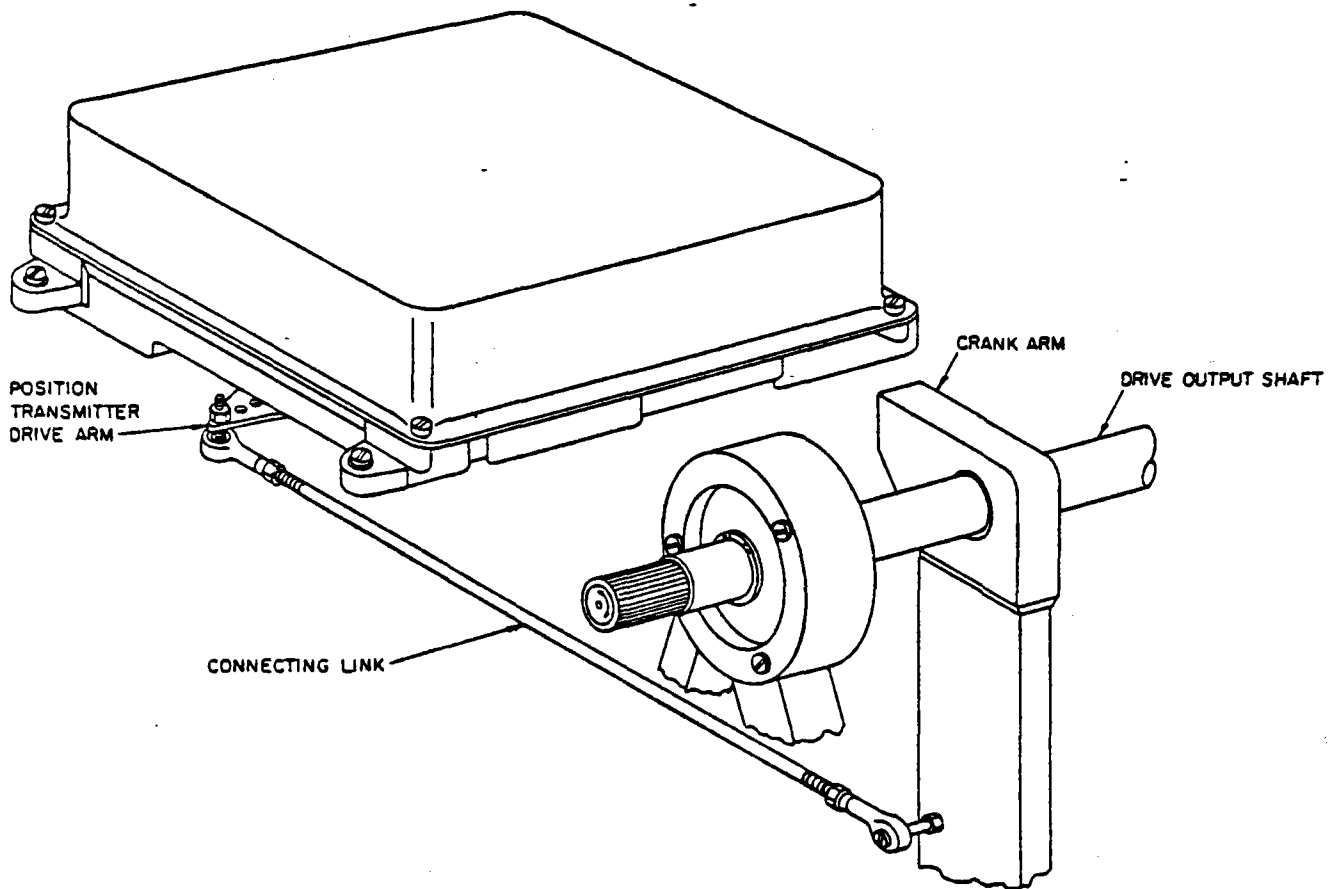

FIGURE 2 - Typical Installation on Control Drive
- **Flexible Characterization.** Characterizing cams establish practically any desired relationship between output signal and input lever travel. Three standard characterizing cams are included with each transmitter. Characteristics of these cams are illustrated in Figure 2. Uncut cam is available when special characterization is required.
FIGURE 2 — Characteristic curves showing range over which standard cams A, B, and C can be calibrated. In the field, standard cams can be modified or uncut cams can be shaped to provide other desired relationships between input rotation and output signal.
3. Connect linkage to Transmitter drive arm. Figures 2 and 3 show typical installations. Maximum drive arm rotation is 90°.